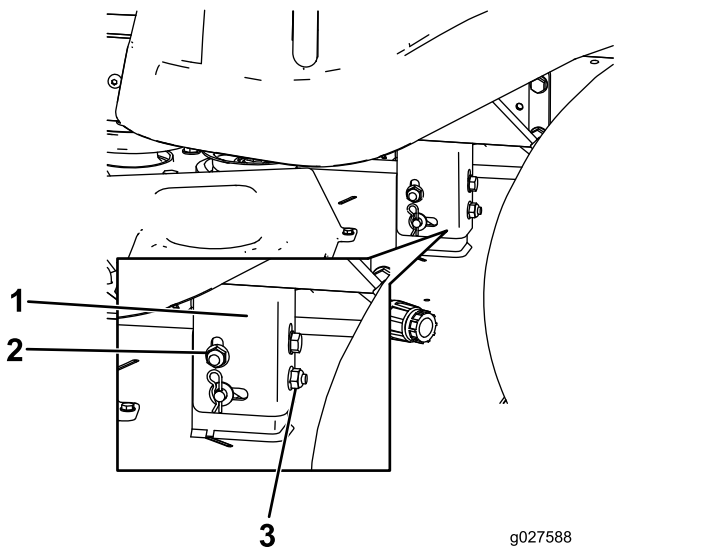

Figure 56
8. Raise or lower the left side of the mower deck by rotating the rear nut (Figure 56).
Note: Rotate the rear nut clockwise to raise the mower deck; rotate the rear nut counter-clockwise to lower the mower deck (Figure 56).